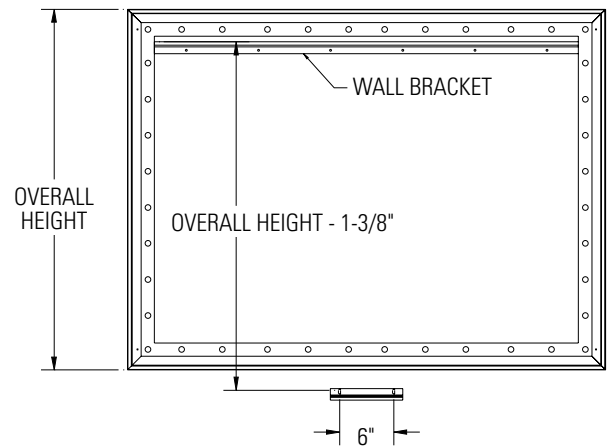

FIGURE 3
2. To install the lower wall bracket, you must measure the overall height of the screen frame and subtract 1-3/8". Using that dimension, measure down from the top edge of the wall bracket and mark the wall for two screw holes. The holes should be centered within the frame and 6" apart. Refer to figure 3.